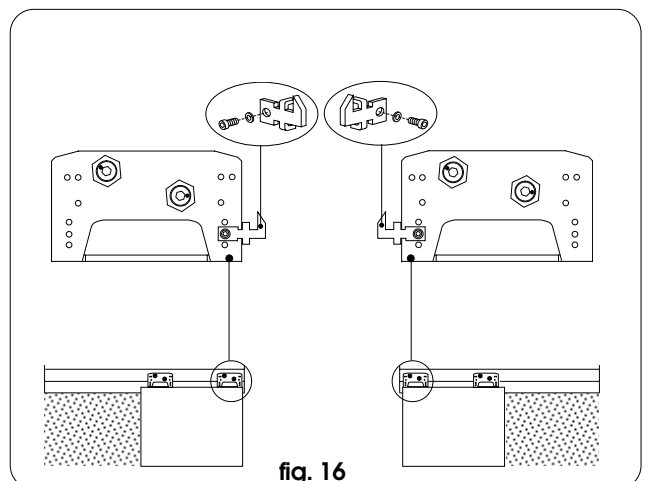

fig. 16
- if using the padlock, secure the hook to the closing-side carriage - as shown in fig. 16 - in the central hole of the 3 specified holes.